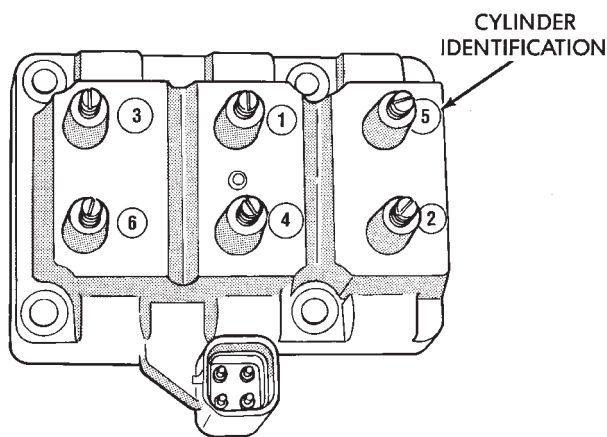

Fig. 49 Cylinder Identification
- (1) Disconnect electrical connector from coil pack.
- (2) Remove coil pack mounting screws.
- (3) Remove coil. The spark plug cables are numbered for cylinder identification.
- (4) Transfer spark plug cables to new coil pack. The coil pack towers are numbered with the cylinder identification (Fig. 49).
- (5) Transfer spark plug cables to new coil pack. The coil pack towers are numbered with the cylinder identification (Fig. 49).
- (6) Reverse procedure for installation.